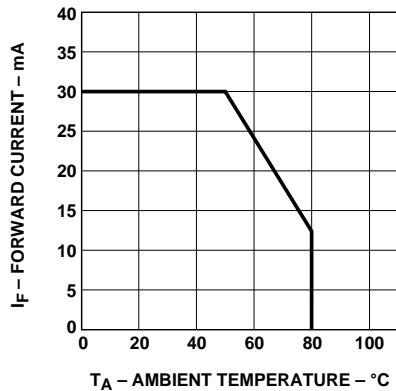

Figure 4. Maximum forward current vs. ambient temperature.
1. Derate linearly as shown in Figure 4 for temperatures above 50°C.